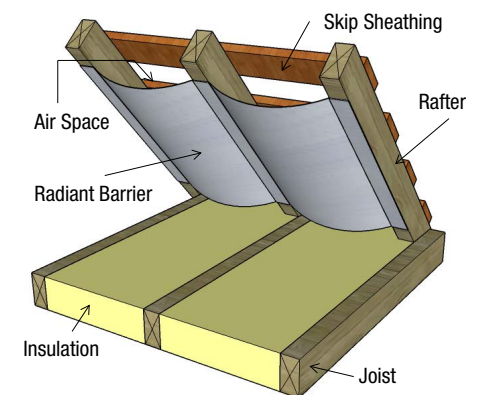

Figure 5 - The radiant barrier is attached to the bottom of the rafters. A minimum of 1.5 inches of airspace is provided.
2. Secure the radiant barrier to the bottom surface of the rafter. Maintain a minimum air space of at least 1.5 inches between the top surface of the radiant barrier and the bottom of the roof decking (Figure 5).